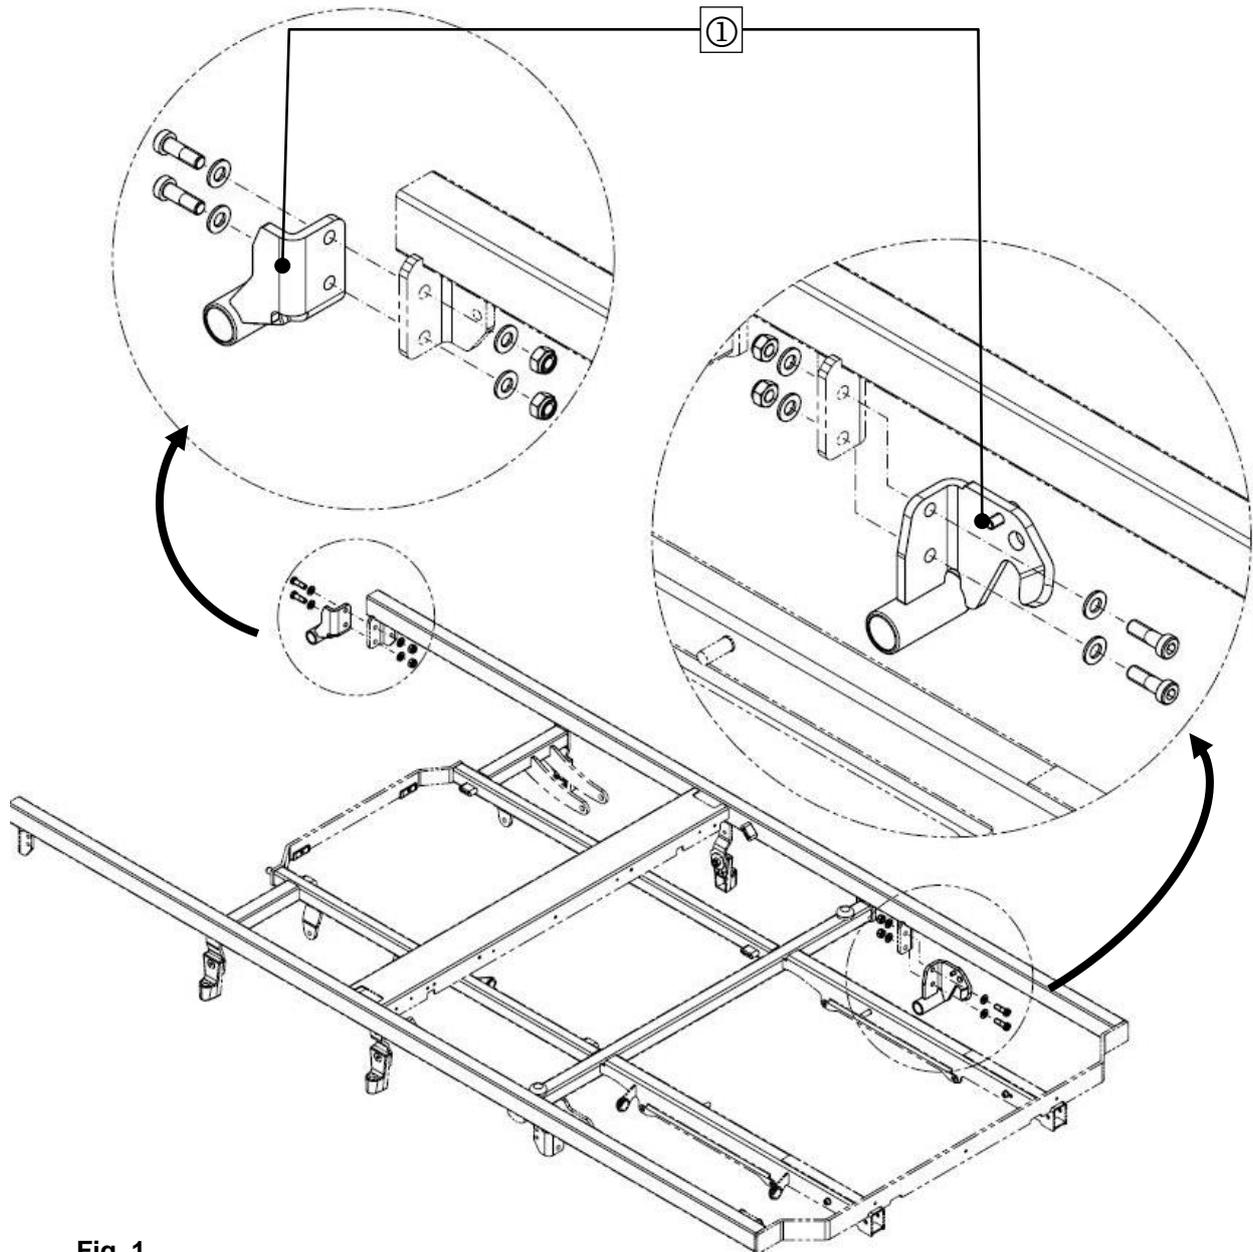

Fig. 1
1. Attach 2 x holder, 1 x at head end and 1 x facing centre of bed (see Fig. 1 - ①)